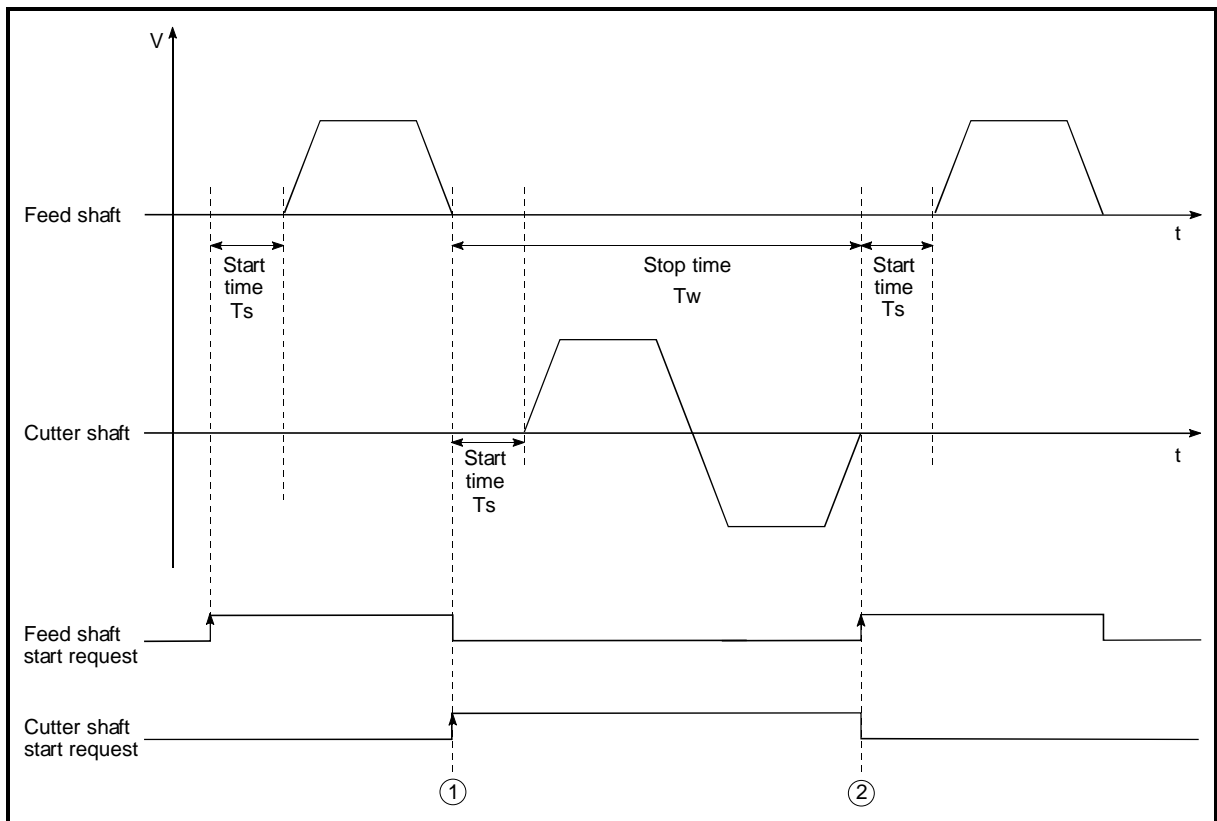

Fig. 12.48 Operation timings of system example
to cut the stock to fixed size. The operations of the feed shaft and cutter shaft are represented as shown in Fig. 12.48.
In Fig. 12.48, the feed shaft stands by during the stop time T_w .
- (1) The time required to analyze the positioning data is up to 7ms.
- (2) After positioning data analysis, the system is put in an execution prohibition flag OFF waiting status. Any change made to the positioning data in the execution prohibition flag OFF waiting status is not reflected on the positioning data. Change the positioning data before turning ON the positioning start signal.
- (3) The pre-reading start function is invalid if the execution prohibition flag is turned OFF between when the positioning start signal has turned ON and when positioning data analysis is completed (Ta < start time, Ta: Refer to Fig. 12.48).
- (4) The data No. which can be executed positioning start using "Cd.3 Positioning start No." with the pre-reading start function are No. 1 to 600 only. Performing the pre-reading start function at the setting of No. 7000 to 7004 or 9001 to 9004 will result in an outside start No. range error (Error code: 543).
- (5) Always turn ON the execution prohibition flag at the same time or before turning ON the positioning start signal. Pre-reading may not be started if the execution prohibition flag is turned ON during Ta after the positioning start signal is turned ON. The pre-reading start function is invalid if the execution prohibition flag is turned ON after positioning start (pulse output) with the execution prohibition flag OFF. (It is made valid at the next positioning start.)